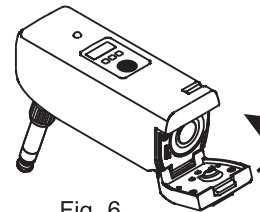

Fig. 6
(C) Carefully close the battery cover until the hinge is properly locked and secured, Fig. 6.
- (D) Keep the transmitter power off to preserve battery power after each use. Remove the battery when it will not be used for an extended period of time.